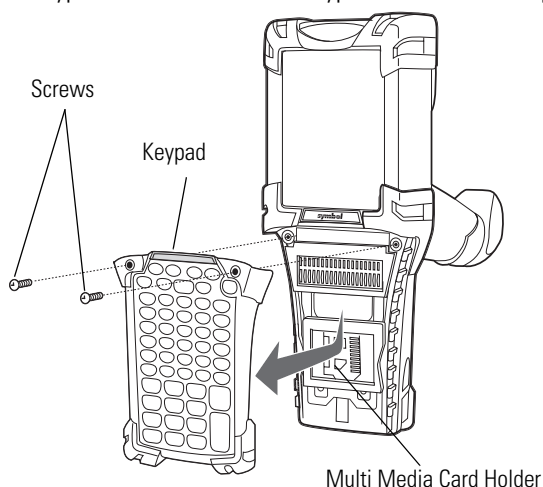

Figure 7-1. Removing the Keypad
The MMC provides secondary non-volatile storage, however the flash memory is slower than RAM. The MMC is located under the keypad, see Figure 7-1 on page 7-7.
2. Remove the two keypad screws and slide the keypad down and lift off (see Figure 7-1 on page 7-7).